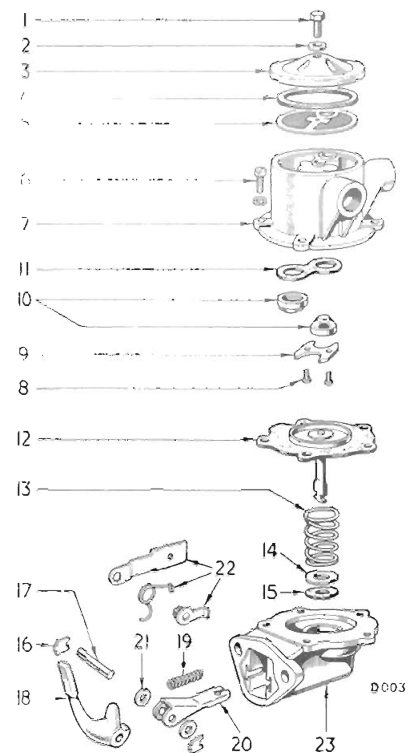

Fig. 1. Exploded view of Spitfire and Herald 1200, 12/50 fuel pump
- (b) Dismantle in the sequence given on Figs. 1 and 2. Re-assemble by reversing the sequence.
- (c) To remove the diaphragm assembly (12) first turn it through 90° in an anti-clockwise direction and lift it out of engagement with operating fork (20) (Fig. 1) or (21) (Fig. 2).